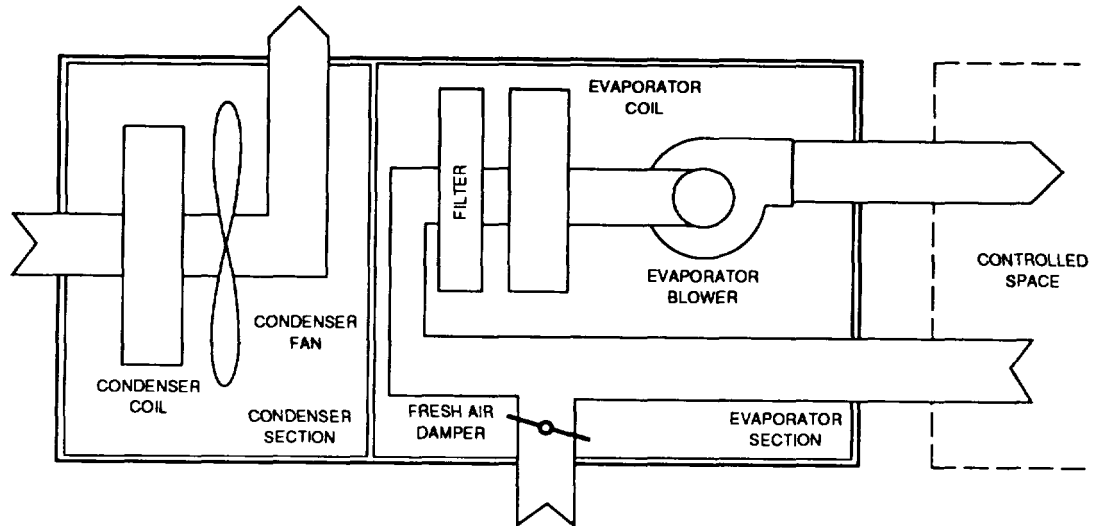

Figure 1-3. Air Conditioner Airflow System
b. AIRFLOW SYSTEM. As indicated in figure 1-3, the air conditioner is divided into two separate airflow compartments. Cooled airflow takes place in the front compartment; heat rejection airflow takes place in the rear compartment. A metal wall seals the front compartment from the rear, preventing air from passing between the two compartments.